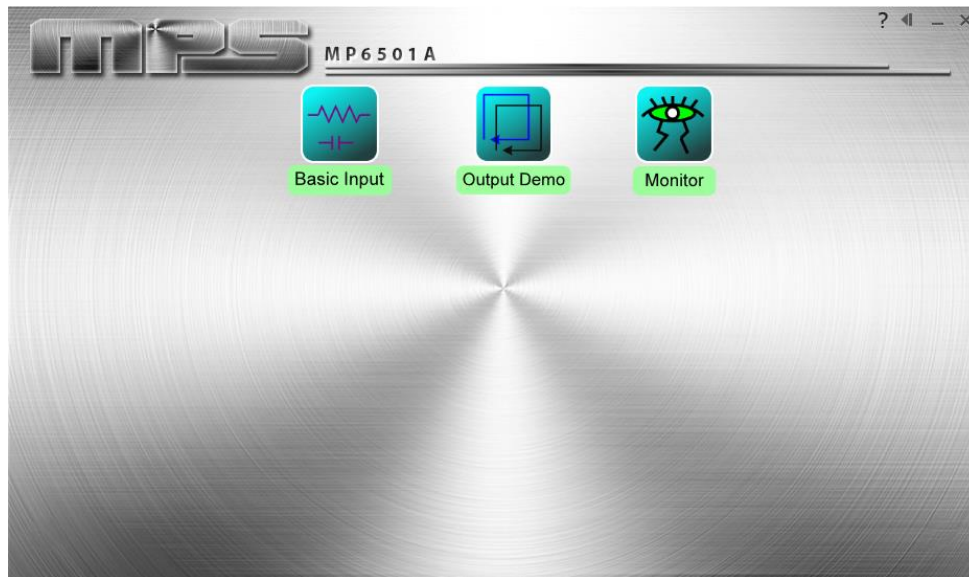

Figure 1: Main Page
2. Launch the GUI. It should show selection buttons for three pages (see Figure 1).